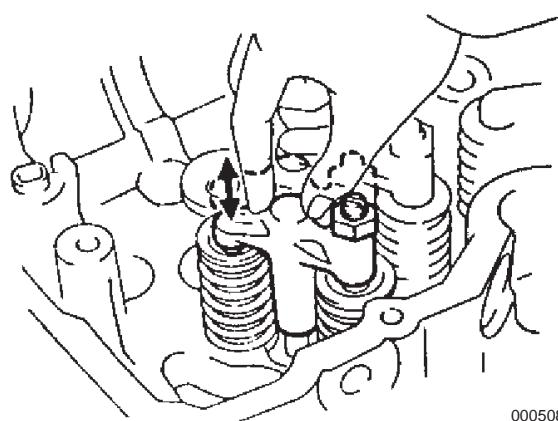

Figure 5-60
- Inspect the valve bridge for smooth operation (Figure 5-60).